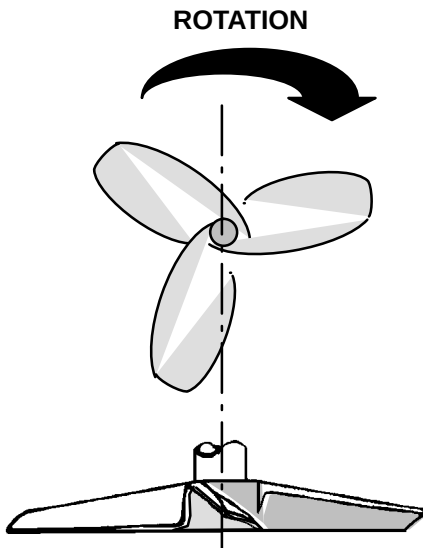

Fig 1
1. Working from the bottom of the motor and housing assembly, push the agitator shaft (5) up through the flange (58) and packing gland (57).
2. Position the coupling (62) on the top of the shaft (5) so it seats on the shaft shoulder.
3. Secure the coupling (62) to the shaft (5) with the washer (65) and capscrew (66).
4. With the keyway (63) in place, tighten the setscrew (64).
5. Connect the agitator shaft and coupling to the drive shaft (38) and secure with the washers (67) and capscrews (68).
7. Install the impeller (6) on the agitator shaft, taking note of the "top" and "bottom" markings on the impeller. Secure with the setscrew (45). Tighten to 22 ft-lb (30 N.m).
NOTE: The impeller (6) must always circulate fluid downward. The correct direction of rotation is shown by the arrow on the agitator nameplate. *See Fig 1.* For electric models, reverse any two leads to ensure proper rotation. *See Fig 4.*